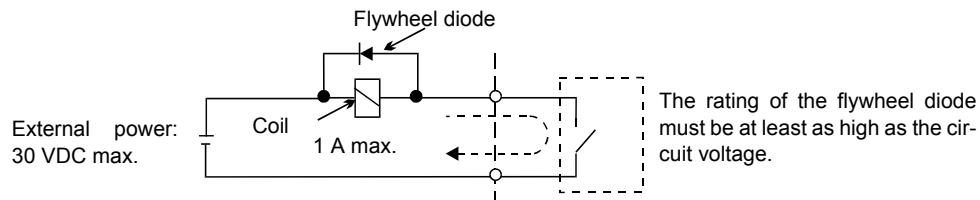

Fig 2.12 Flywheel Diode Connection
- \* 3. When driving a reactive load, such as a relay coil with DC power supply, always insert a flywheel diode as shown in Fig 2.12.